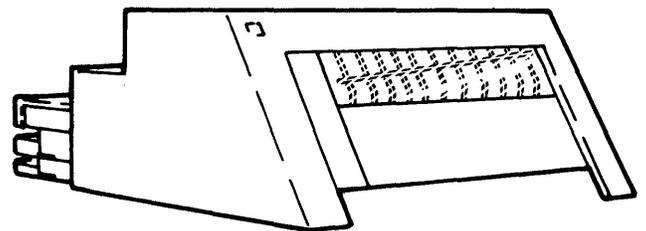

Figure 1-5. Sheet Feed Paper Handler
- The Sheet-Feed Paper Handler is a two-tray paper handler which holds up to 400 sheets of paper (200 sheets per tray). It feeds and stacks individual sheets of paper (Figure 1-5).